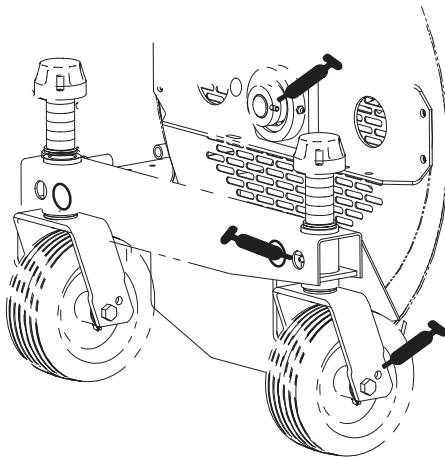

Figure 8
Under normal conditions, grease the (2) castor wheels and (2) wheel pivot tubes (Fig. 8) after every 50 hours of use. Use a No. 2 Lithium based grease.